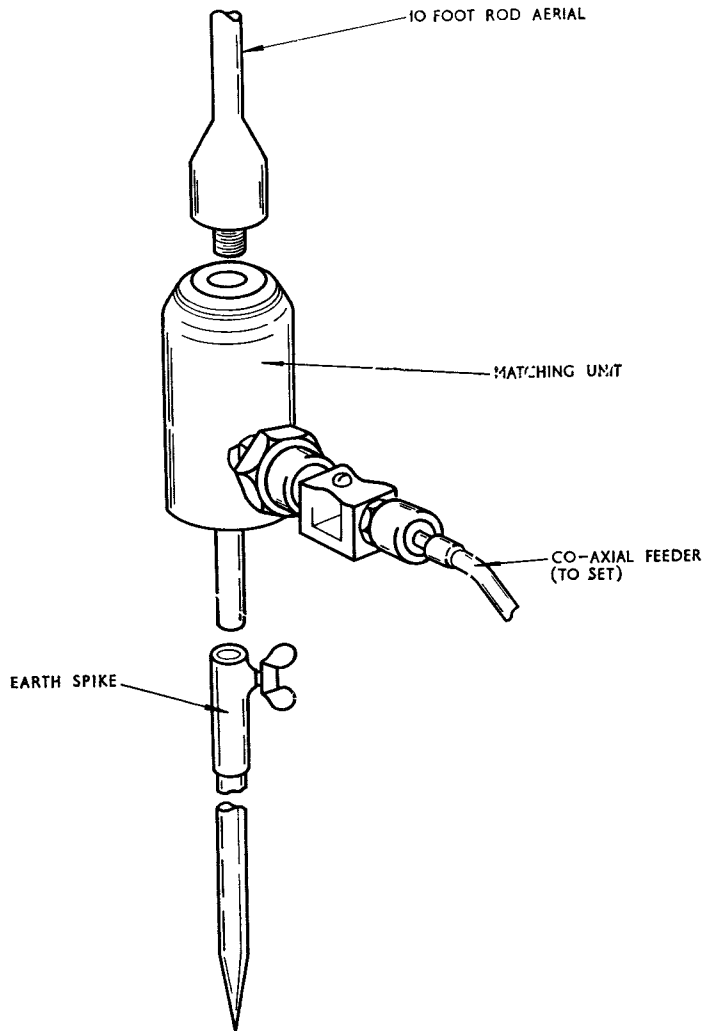

FIG. 5. REMOTE AERIAL
- (1) Push the earth spike firmly into the ground.
- (2) Fit the matching unit to the earth spike and tighten the wing nut (see Fig. 5).
- (3) Assemble the 10 ft rod aerial and screw it into the top of the matching unit. Tighten firmly by hand.
- (4) Using the 4 ft 6 in coaxial connector, fit the small plug on one end of the cable into the REMOTE AERIAL socket on the set and the large socket on the other end to the plug on the aerial matching unit.
- (5) To extend the coaxial lead by 25 ft or 50 ft, if required, connect one or both of the 25 ft coaxial connectors between the matching unit and the 4 ft 6 in connector.
- (6) It is not necessary to use the counterpoise wire with this rig.